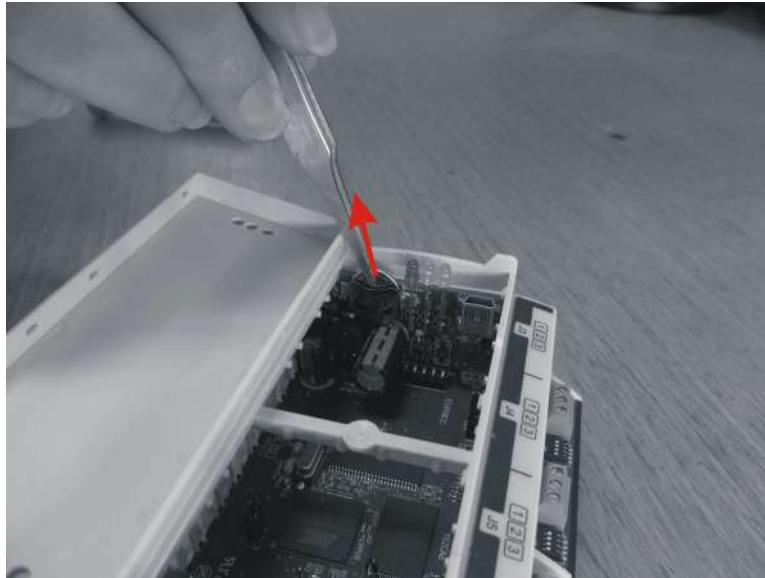

Figure 4
2. Remove the battery using tweezers (Figure 4)